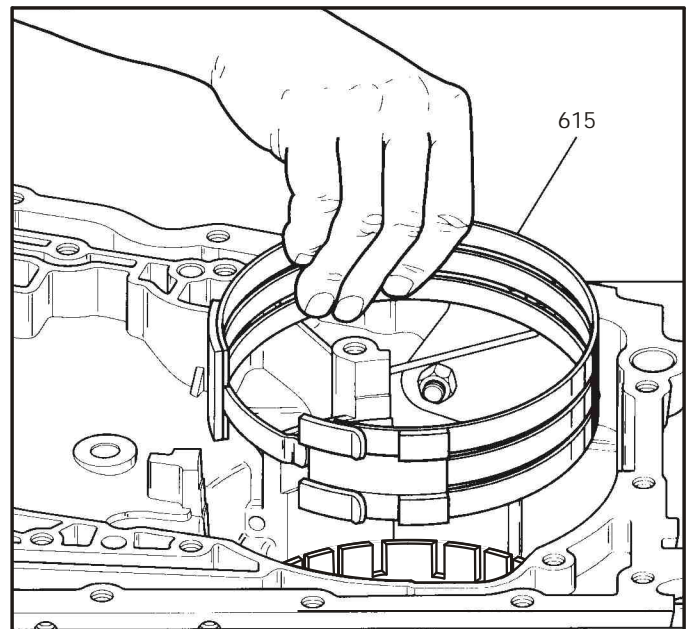

Figure 72
24. Remove the reverse band from the transaxle case if it did not come out with the drums, as shown in Figure 72.